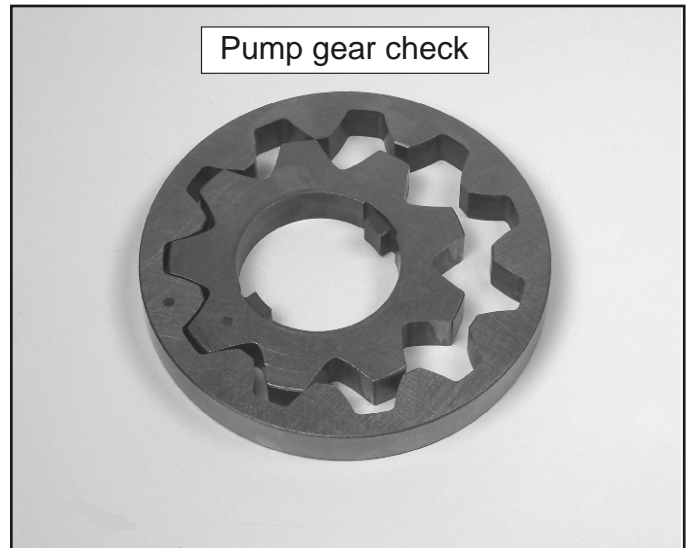

Figure 110
59. Inspect the outer pump gear and the torque converter lug area for wear, as shown in Figure 110.